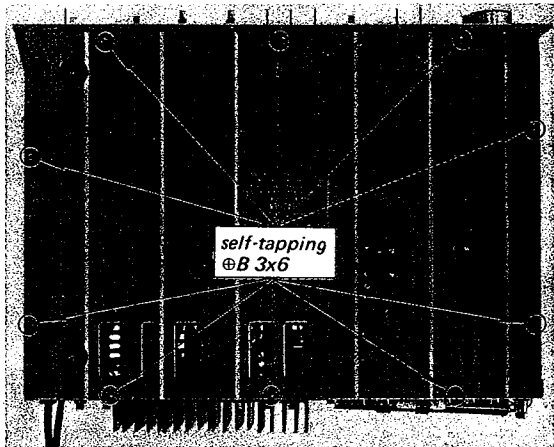

Fig. 2-2. Bottom plate removal
2. Remove the ten self-tapping screws ($\oplus B 3 \times 6$) at the bottom of the receiver as shown in Fig. 2-2. This frees the bottom plate.